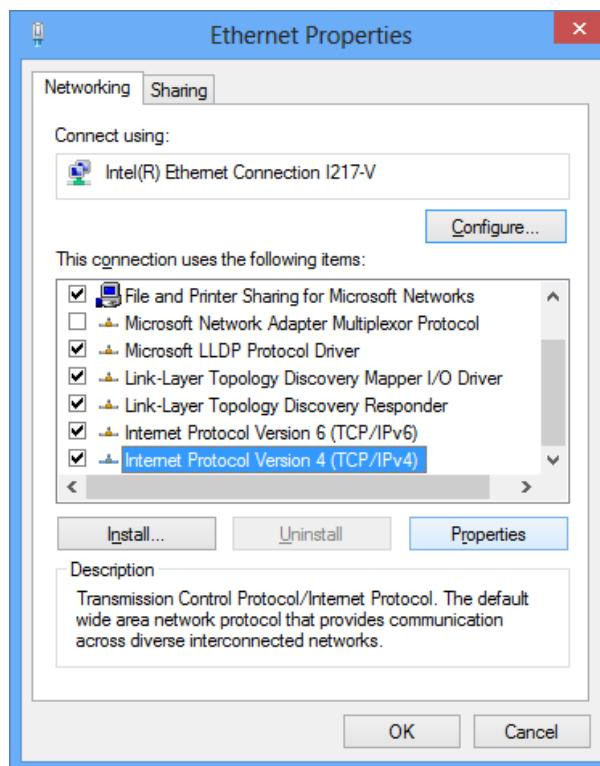

Fig. 11.4: Property window of the "Internet Protocol Version (TCP/IPv4)".
d. Click on "Internet Protocol Version (TCP/IPv4)" and select "Properties", as in **Fig. 11.4**.